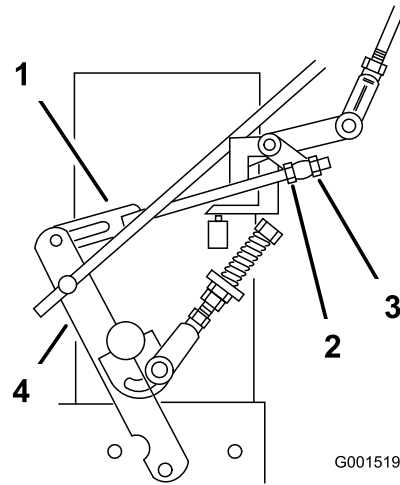

Figure 39
8. Loosen the front adjusting nut on left hydro control linkage as shown in Figure 39.
9. Turn the left rear adjusting nut counterclockwise until the wheel rotates forward (Figure 39).
10. Turn the rear adjusting nut clockwise 1/4 of a turn at a time. Then move the speed-control lever forward and back to the Neutral position. Repeat this until the left wheel stops rotating forward (Figure 39).